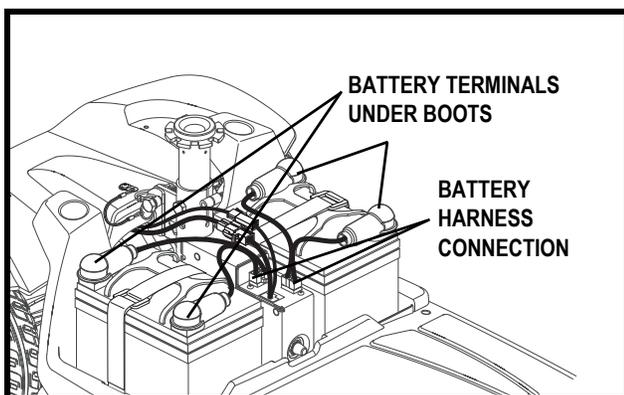

Figure 11. Battery Removal/Installation
3. Disconnect the battery harnesses by depressing the tabs and then pulling them straight up. **See figure 11.**